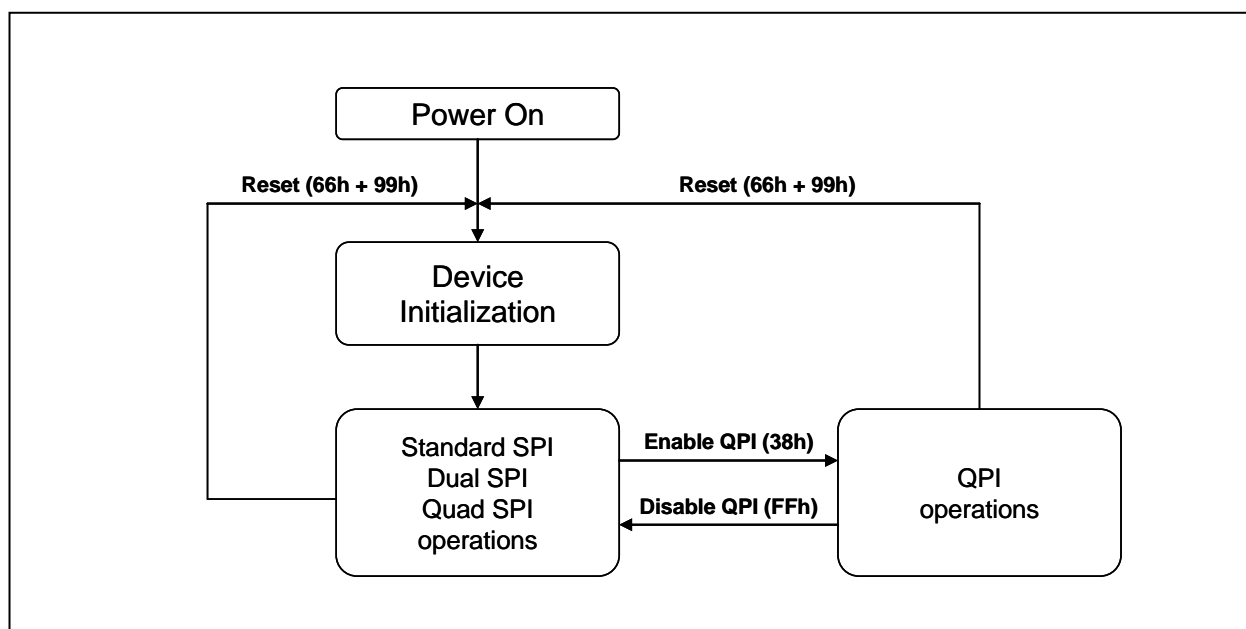

Figure 3. W25Q64FV Serial Flash Memory Operation Diagram
The W25Q64FV supports Quad Peripheral Interface (QPI) operations only when the device is switched from Standard/Dual/Quad SPI mode to QPI mode using the “Enable QPI (38h)” instruction. The typical SPI protocol requires that the byte-long instruction code being shifted into the device only via DI pin in eight serial clocks. The QPI mode utilizes all four IO pins to input the instruction code, thus only two serial clocks are required. This can significantly reduce the SPI instruction overhead and improve system performance in an XIP environment. Standard/Dual/Quad SPI mode and QPI mode are exclusive. Only one mode can be active at any given time. “Enable QPI (38h)” and “Disable QPI (FFh)” instructions are used to switch between these two modes. Upon power-up or after a software reset using “Reset (99h)” instruction, the default state of the device is Standard/Dual/Quad SPI mode. To enable QPI mode, the non-volatile Quad Enable bit (QE) in Status Register-2 is required to be set. When using QPI instructions, the DI and DO pins become bidirectional IO0 and IO1, and the /WP and /HOLD pins become IO2 and IO3 respectively. See Figure 3 for the device operation modes.